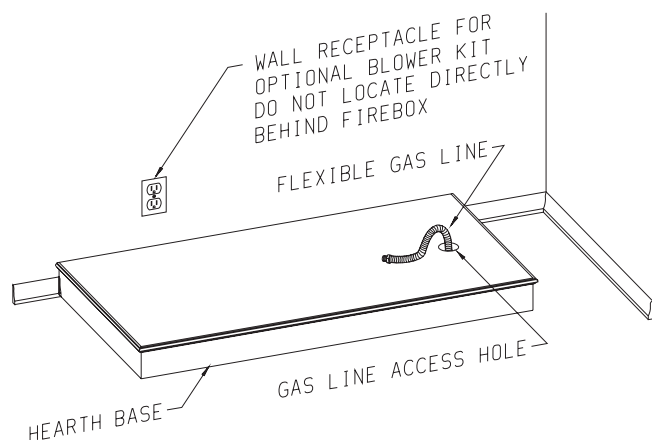

Figure 13
3. Place hearth base accessory against wall at installation location. Cut an access hole in hearth base top and laminate trim if used to run flexible gas line to fireplace (see Figure 13). Make sure to locate access hole so cabinet mantel will cover it when installed. **Note:** You can secure base to floor using wood screws. Countersink screw heads and putty over.
Placing Hearth Base Accessory Against Wall (Figure 13)